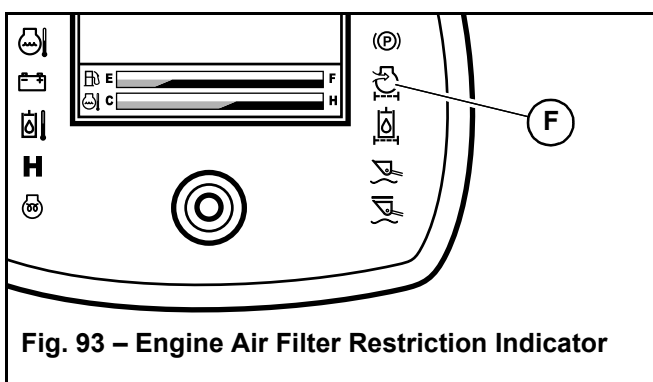

Fig. 93 – Engine Air Filter Restriction Indicator
Check, and if necessary replace, the engine air filters after every 250 hours of use, or every 6 months, or whenever the engine air filter restriction indicator is lit (F, Fig. 93).
**NOTE:** The engine air filter restriction indicator (F, Fig. 93) on the multi-function display is lit whenever the air cleaner becomes restricted. When this indicator is lit, the air filters require inspection and may need replacement.